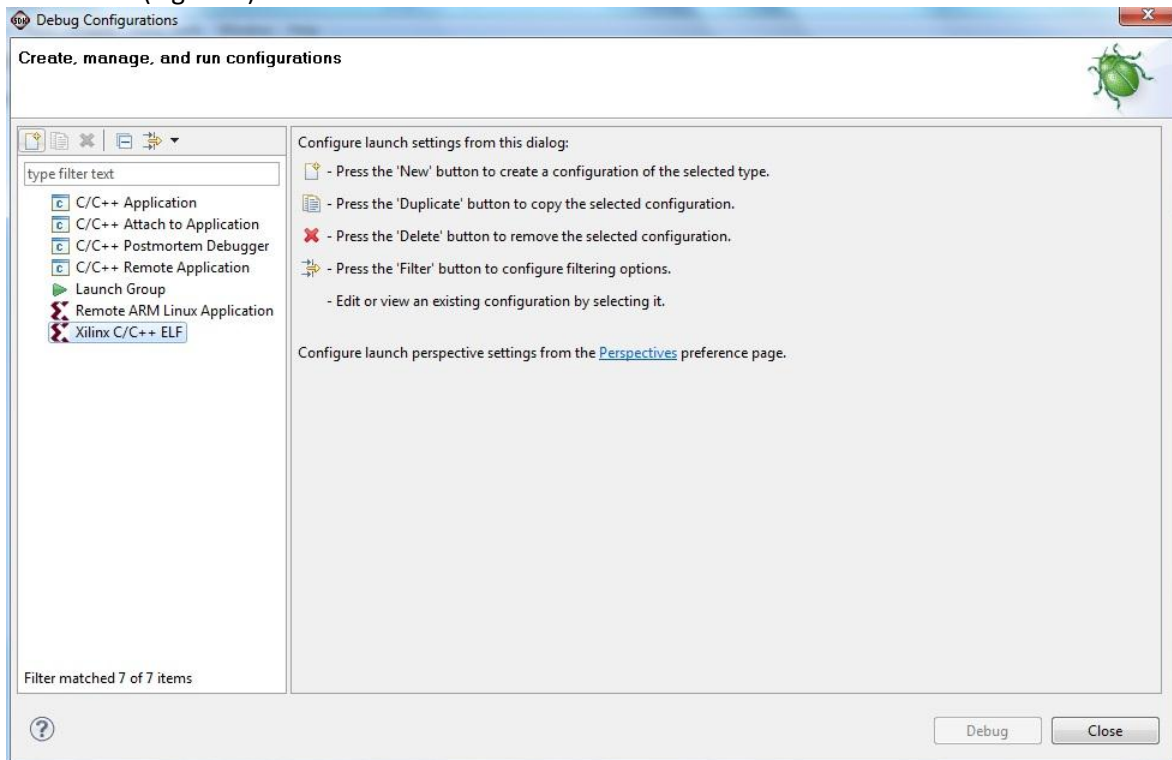

Figure 9
- b. Highlight **Xilinx C/C++ ELF** and select the **New launch configuration icon** at the top left(Figure 9).